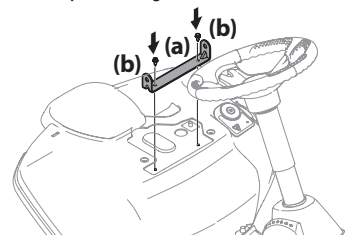

Figure 6
- Align the seat bracket (a) in place over the holes from where the self-tapping bolts (b) were removed, as shown in Figure 6.
- Using a 1/4" drive ratchet with a 3/8" socket, secure the seat bracket (a) with the self-tapping bolts (b) removed in Step 2. See Figure 6.